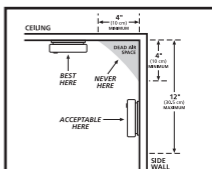

FIGURE 1
- When mounting an alarm on the ceiling, locate it at a minimum of 4" (10 cm) from the side wall (see FIGURE 1).
- When mounting the alarm on the wall, use an inside wall with the top edge of the alarm at a minimum of 4" (10 cm) and a maximum of 12" (30.5 cm) below the ceiling (see FIGURE 1).
- In homes that are not well insulated, extreme heat or cold can be transferred from the outside to the inside through poorly insulated walls and roof. This may create a thermal barrier which can prevent the smoke from reaching an alarm mounted on the ceiling. If you are not sure about the insulation in your home, or if you notice that the outer walls and ceiling are either hot or cold, install the alarm on an inside wall. In such homes, install the smoke alarm with the top edge of the alarm at a minimum of 4" (10 cm) and a maximum of 12" (30.5 cm) below the ceiling (see FIGURE 1).
Modern mobile homes have been designed and built to be energy efficient. Install smoke alarms as recommended above (refer to RECOMMENDED LOCATIONS and FIGURE 1 and 2). In older mobile homes that are not well insulated compared to present standards, extreme heat or cold can be transferred from the outside to the inside through poorly insulated walls and roof. This may create a thermal barrier which can prevent the smoke from reaching an alarm mounted on the ceiling. In such units, install the smoke alarm on an inside wall with the top edge of the alarm at a minimum of 4" (10cm) and a maximum of 12" (30.5cm) below the ceiling (see FIGURE 1).